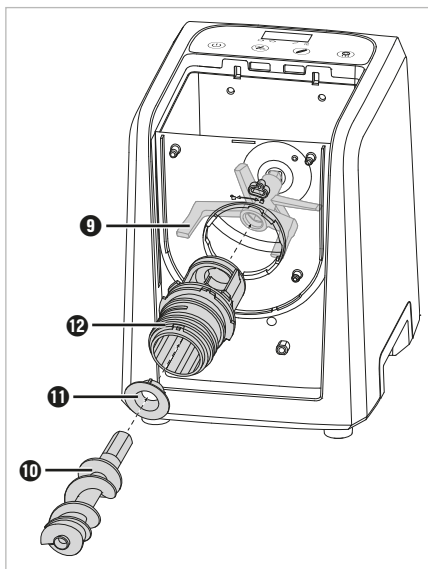

Fig. 3
- 4) Push the support **11** into the end of the bracket **12** so that the three tabs on the support **11** slide into the grooves on the bracket **12** (**fig. 3**).
- 5) Mount the bracket **12** onto the dough container **15**. Push in the bracket **12** so that its narrow end goes through the round opening on the dough container **15** (**fig. 3**).
- 6) Then push the dough shaft **10** with its narrow end through the bracket **12** into the retainer on the kneading hook **9** (**fig. 3**). If necessary, reach into the dough container **15** from above and wiggle the kneading hook **9** a little until you can push in the dough shaft **10**.